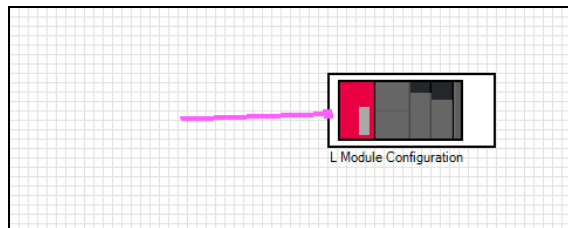

Figure 5 – Initiating PackML Template System Network Configuration
- a. After the Module Configuration is completed, the Module Configuration is automatically reflected in the Network Configuration workspace. For the Low Cost PackML Template System, a Serial Cable network is added to the Network Configuration as Network No. 1 as shown in Figure 5.